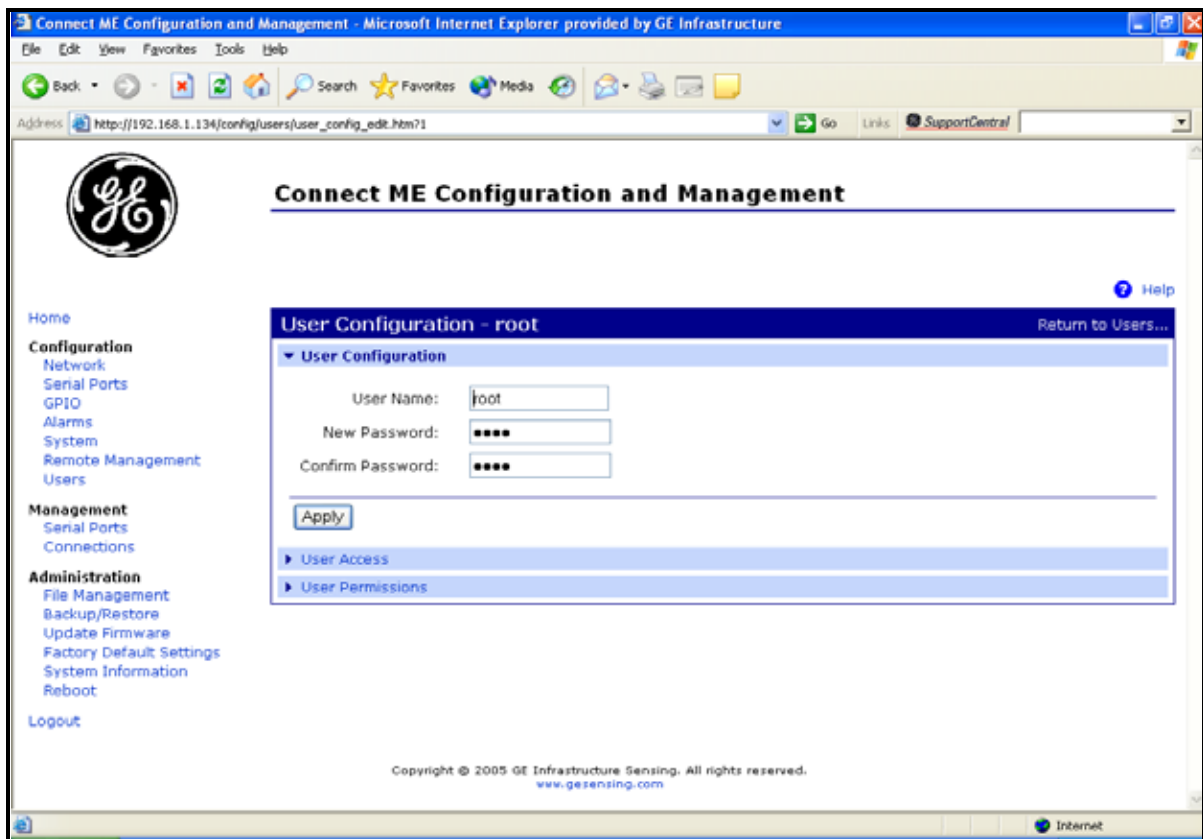

Figure 19: Changing the User Name and/or Password
5. Click on **New...** Figure 19 on page 35 appears.